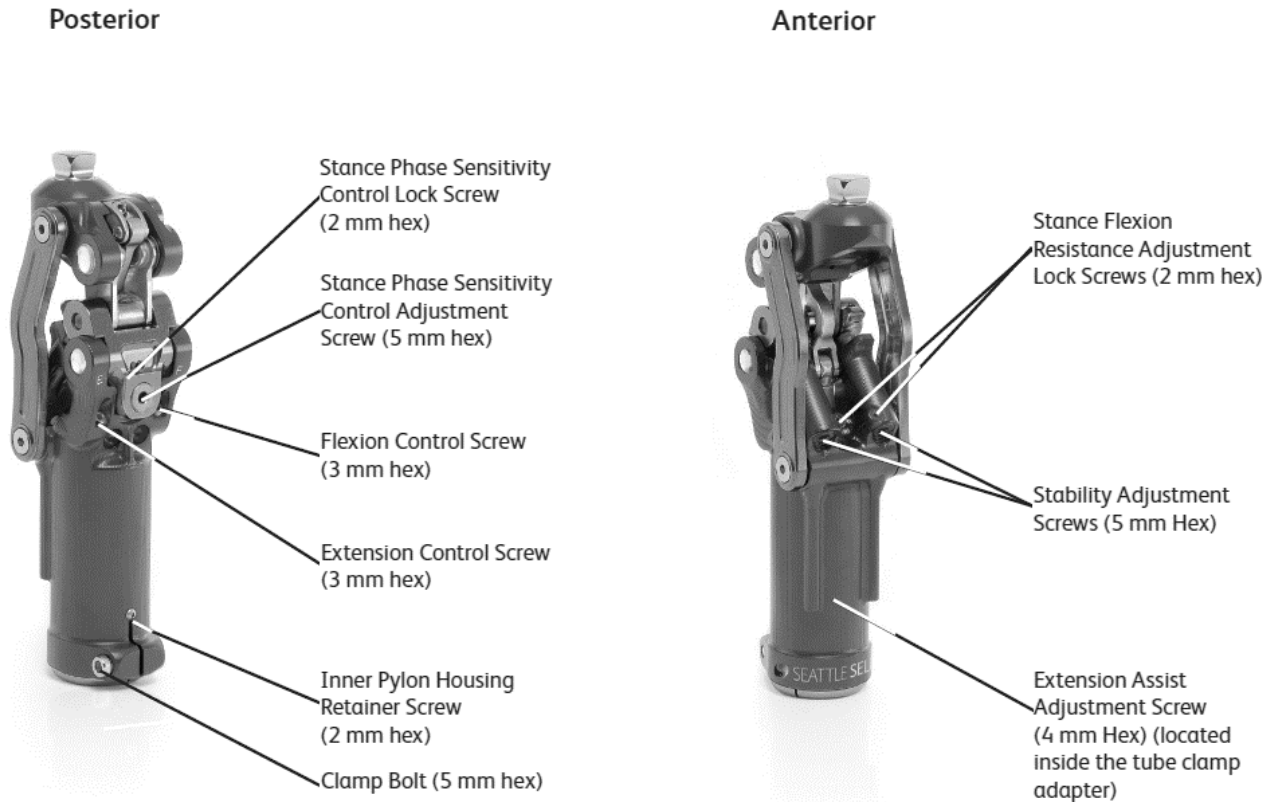

Figure 1: SSK615 and SSK615-THR knee adjustment locations (SSK615 Select Stance Flexion Knee show)
5. Using a torque wrench, tighten the Clamp Bolt (*Figure 1*) to 12 Nm (9 ft-lbs or 108 in-lbs) using a 5mm hex wrench.
1. Locate the Stance Phase Sensitivity Lock Screw on the posterior of the knee (*Figure 1*). Using a 2mm hex wrench, loosen the lock screw. **NOTE: This screw is located vertically along the knee body**
2. Locate the Stance Phase Sensitivity Control Adjustment Screw, (*Figure 1*) on the posterior of the knee. Using a 5mm hex wrench:
1. Locate the two Stance Flexion Resistance Adjustment Lock Screws on the anterior of the knee (*Figure 1*). Using a 2mm hex wrench, loosen the two lock screws.
2. Locate the Stability Adjustment screws on the anterior of the knee (*Figure 1*). Using a 5mm hex wrench:
- a. Locate the two Stance Flexion Resistance Adjustment Lock Screws on the anterior of the knee (*Figure 1*). Using a 2mm hex wrench, loosen the two lock screws.
- b. Locate the Stability Adjustment screws on the anterior of the knee (*Figure 1*). Using a 5mm hex wrench, remove both of the Stability Adjustment screws.
- e. Re-tighten the Stance Flexion Resistance Adjustment Lock Screws (*Figure 1*).
1. Locate the Flexion and Extension Control Adjustment Screws on the posterior of the knee (*Figure 1*). Using a 3mm hex wrench: